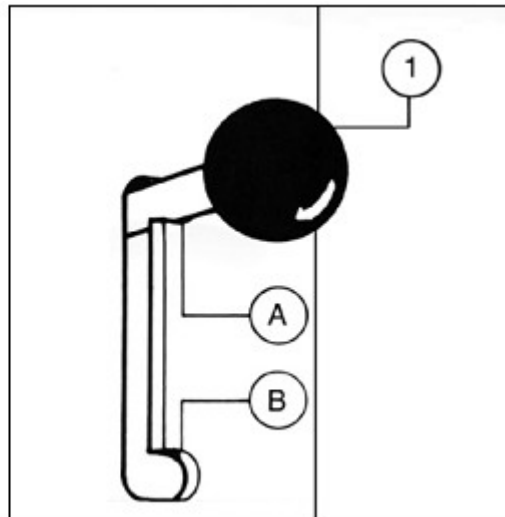

Fig 16
- It is not possible to start the machine when the spindle lock (fig 16 – 17) is functioning.
- To get the machine ready for use, it is important to check if the handle is pointing up (fig 16.A) and the brake release switch is on "0" (fig 15.2).